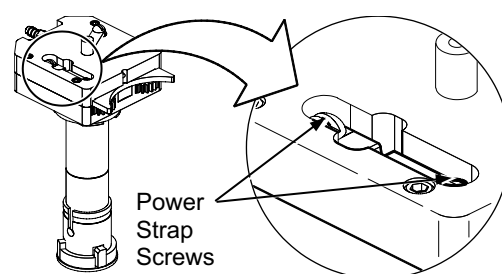

Figure 30 Inspecting the Power Strap Screws
11. Verify that the two power strap screws are tight. See Figure 30.